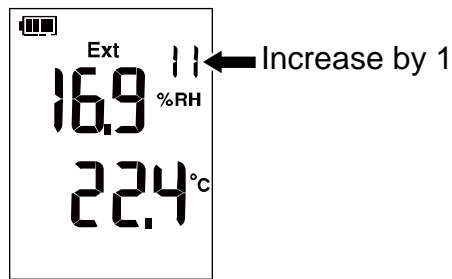

Figure 7. Save Measurement Data
2. Release **SAVE 2sec** when the number of the storage location increases by 1, as shown in Figure 7.